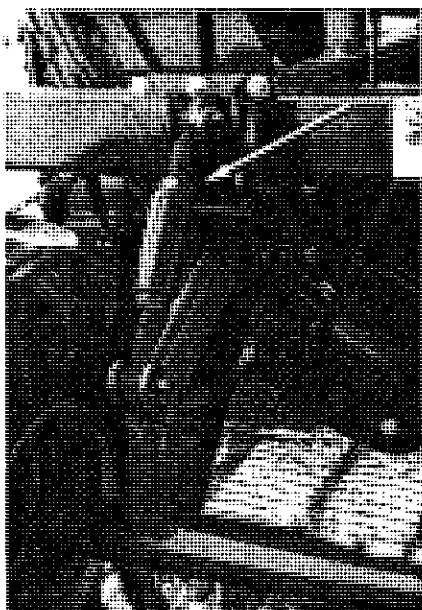

Figure 14. Carrier Wheel Height Adjustment For Fixed Wheels
1. To adjust the height, alternately turn the screw jacks (see Figure 14) in small amounts on each side until the desired position is reached.